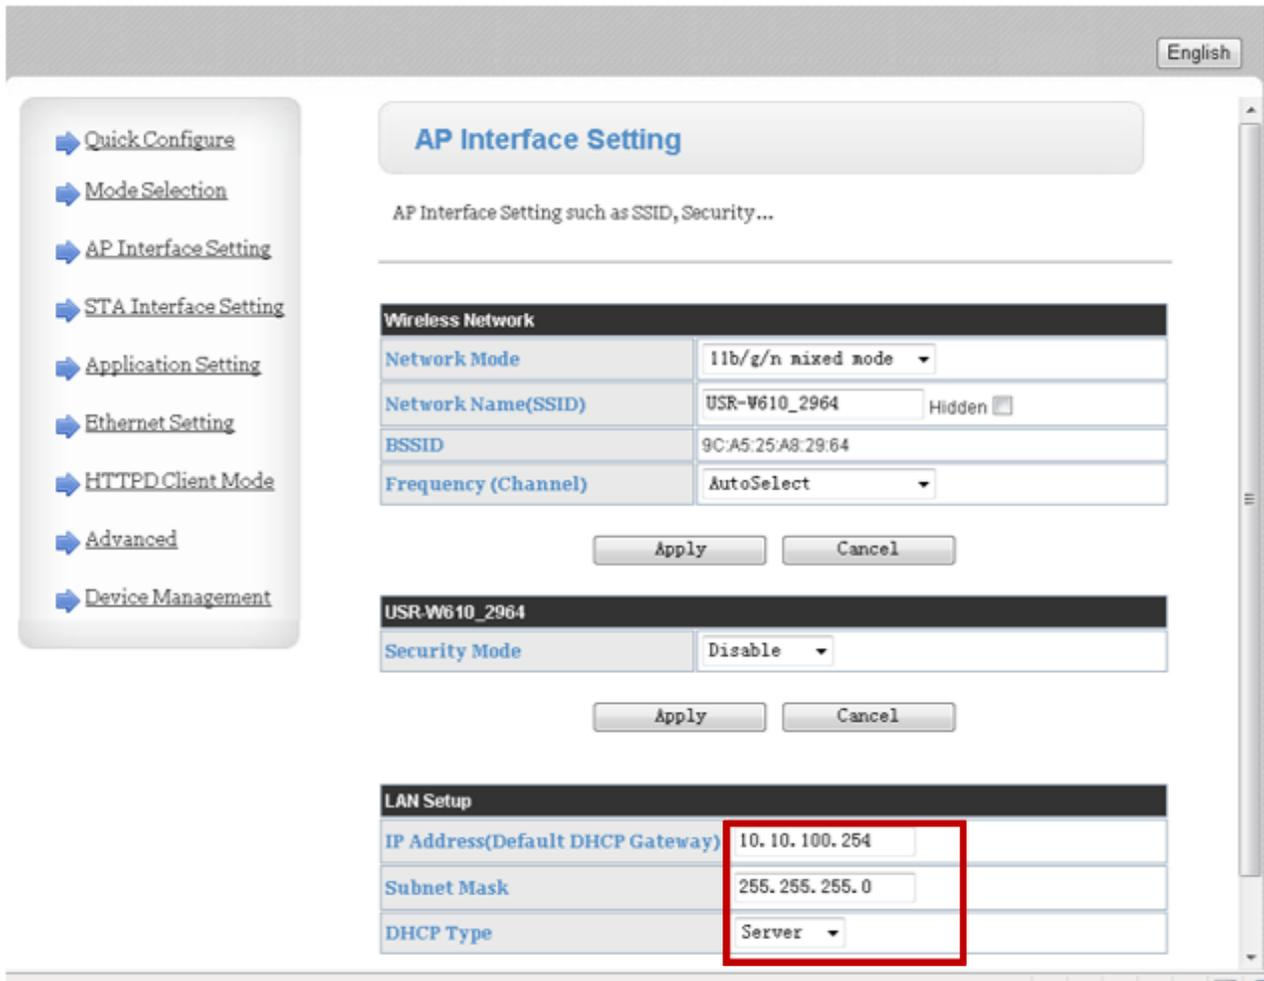

Figure 7
D. Click "AP Interface setting" in the directory on the left, and set it with reference to Figure 7. (The following setting is only for reference. We need to set the IP setting of the computer wireless adapter consistent with the wireless interface converter. User can modify them according to the requirement.)